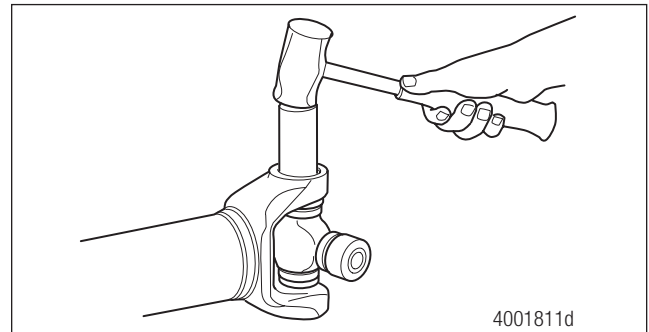

Figure 9.2
2. If necessary, use a brass drift and lightly tap the center of the bushing to assist in snap ring removal. Figure 9.2.